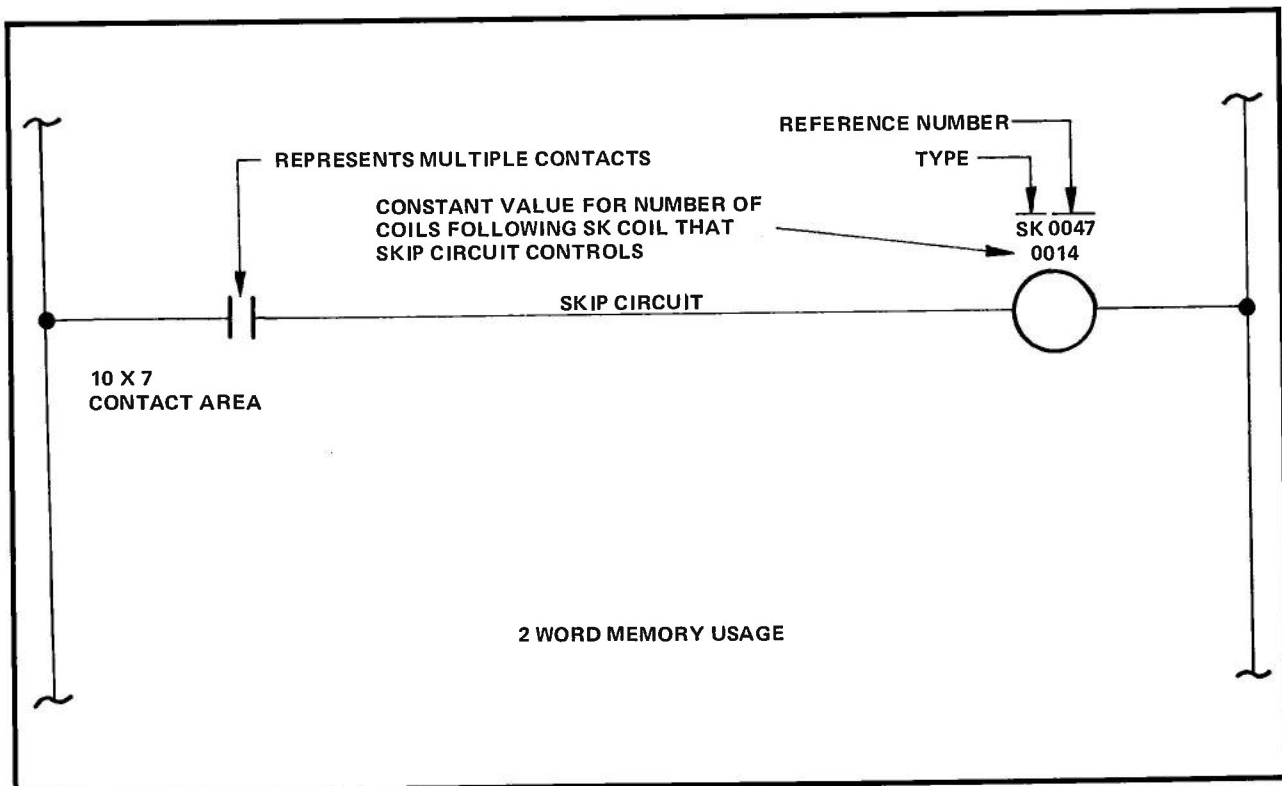

Figure 1. Skip (SK)
The Skip (SK) function is a powerful programming tool. When the SK function is executed, the processing of the entire ladder diagram or a portion thereof is skipped (bypassed). The skipped functions remain frozen in the state existing prior to the execution of SK. SK function symbology is shown in Figure 1.